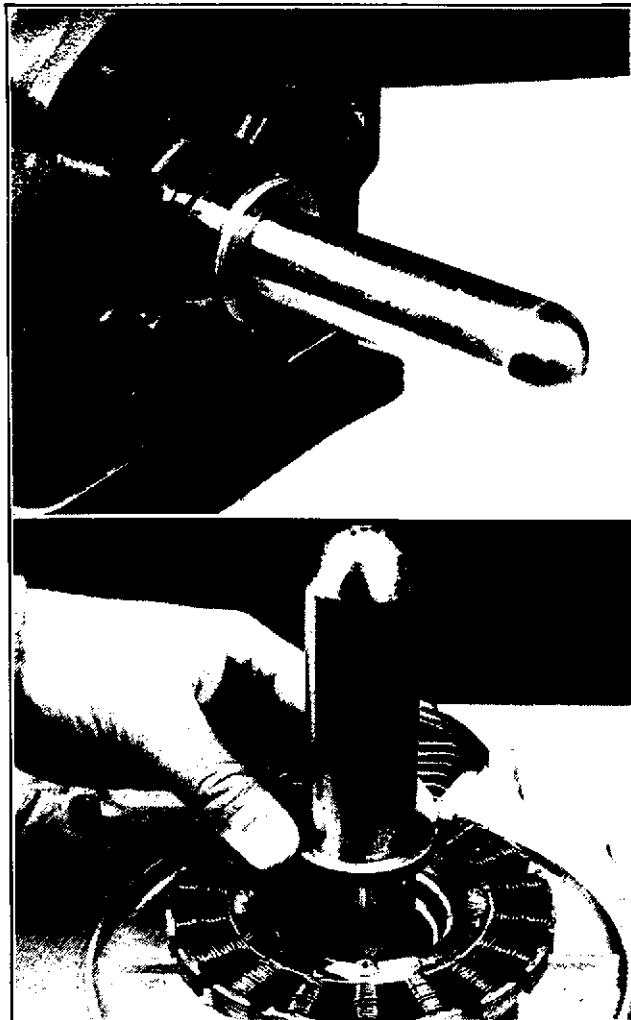

Figure 8-11. Installing Oil Seals
1. To install seals, place seal sleeve over crankshaft. Apply a liberal amount of light grease, such as Lubriplate, on the seal lip area and slide the seal down over the sleeve (see Figure 8-11).